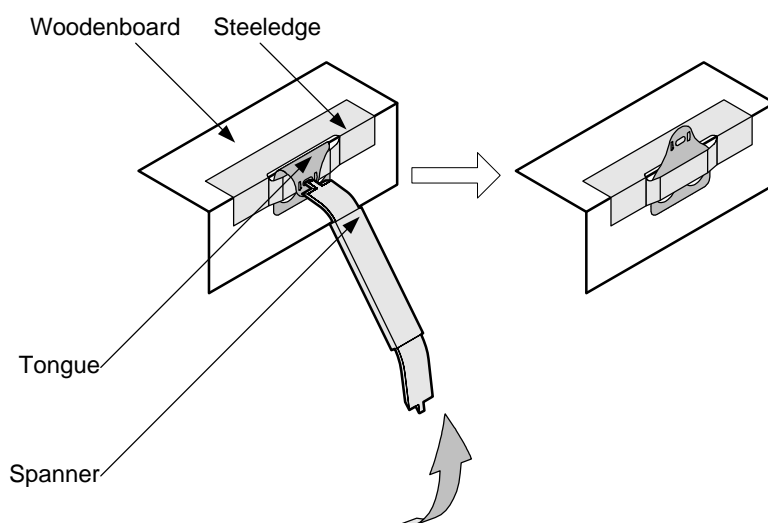

Figure 1-1 Straightening the tongues
- 2) Turn the ejector lever to straighten the tongue, as shown in Figure 1-1. You can also use a screwdriver or a hammer to handle the tongue.